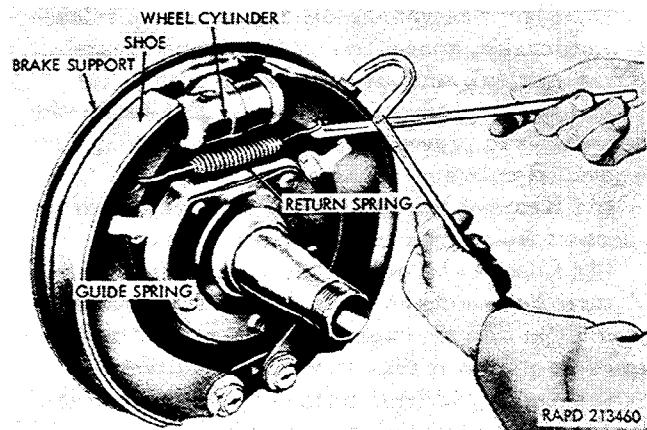

Figure 2-155. Removing brakeshoe return spring.
(1) Remove the brakeshoe return spring, using brake spring pliers (fig. 2-155).
Release the shoes from the guide springs and wheel cylinder (fig. 2-155), and remove the shoes.
d. Remove Wheel Cylinder (Fig. 2-155).
(1) If the inlet fitting was removed (e(4) above), install a new fitting on the brake line.
(2) Position the cylinder on the brake support (fig. 2-155), being sure to use the correct cylinder (a above). Install two lockwashers and bolts from the rear side of the brake support (fig. 2-155). Tighten the two bolts.
(3) Position the inlet fitting on the wheel cylinder, and install the gasket and bolt. Tighten the bolt.
(1) Apply a film of lubricant on the brakeshoe cams and inner sides of the guide springs. Position the two brakeshoes on the support plate with each shoe engaged in the guide spring (fig. 2-155) and the upper ends of the shoes in the boots at each end of the wheel cylinder.
(2) If the C washer and oil washers were removed from the anchor bolts (e(3) above), install a new C washer on each bolt. Apply a film of lubricant to the anchor bolts and install an oil washer retainer and oil washer on each bolt.
(3) Install the two anchor bolts from the brakeshoe side and install a lockwasher and nut on
(4) Engage one end of the brakeshoe return spring in the hole in one of the brakeshoes, and engage the other end in the opposite hole, using brake spring pliers and a rubber pad (fig. 2-155).
(5) Remove the wheel cylinder clamp.